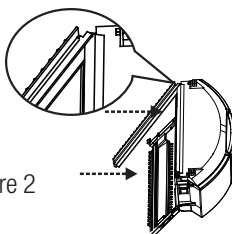

Figure 2
2. Place one end of the cleaning head onto the clear cover of the dust bin, make sure the rubber on the cleaning head is facing upwards and connect it with the dust bin. (Refer to Figure 2).